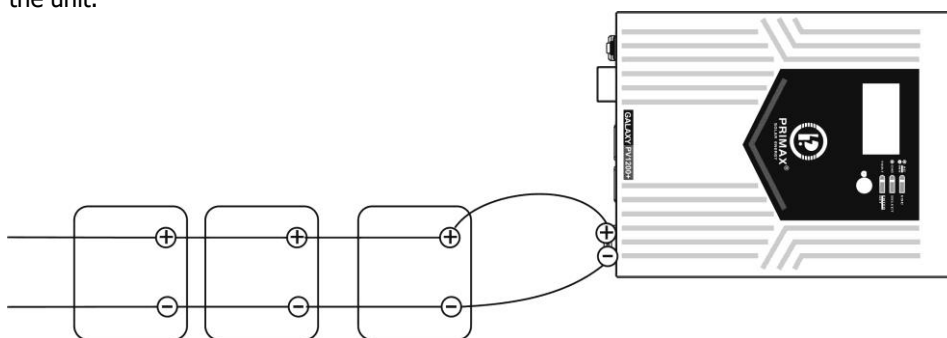

Fig 4
- 3) Multiple batteries in parallel connection(Refer to Fig. 4):** Each battery's voltage must be equal to the Nominal DC Voltage of the unit.